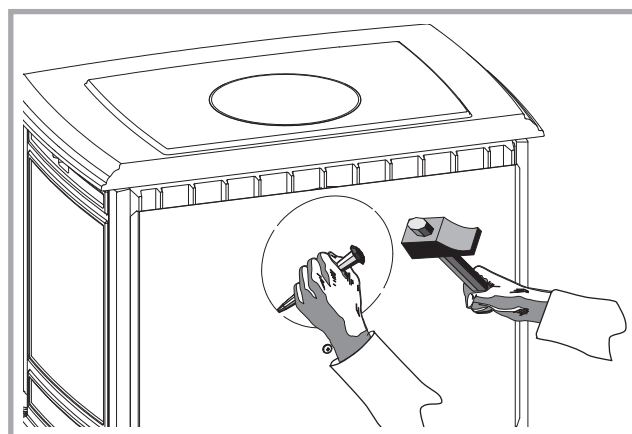

Figure 5 - Cut-out in the rear heat shield
- Remove the cardboard chock from the top (A).
- Remove the flue precut part in the heat shield (figure 5).